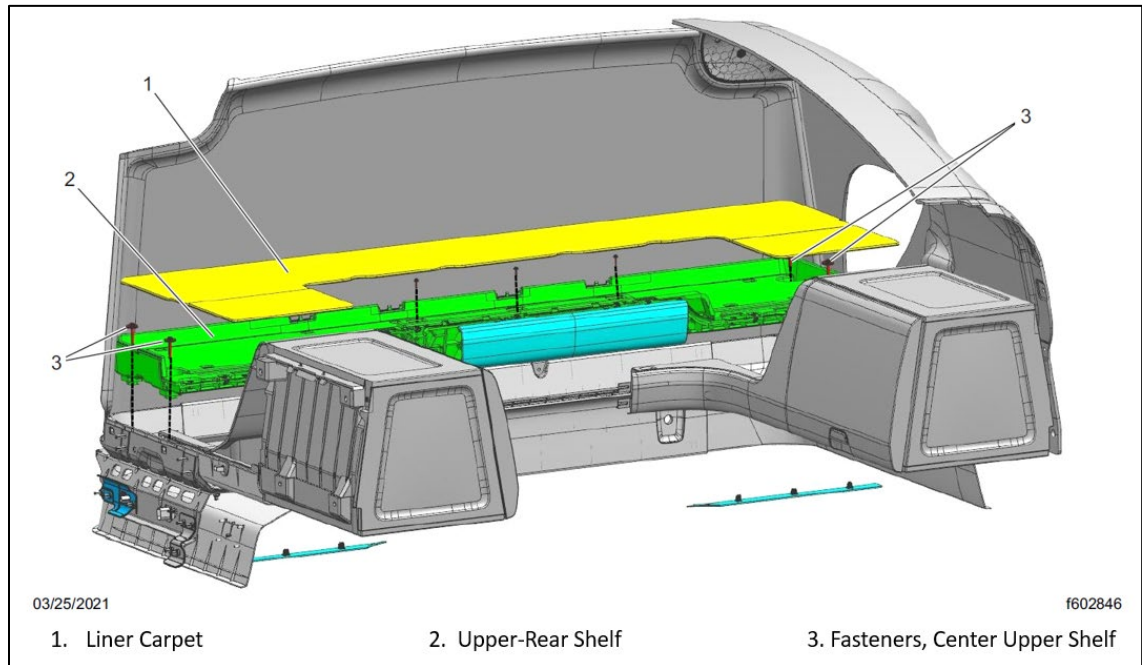

Fig. 42, Upper-Rear Shelf Assembly
6.2. Remove the four fasteners that attach the upper-rear shelf to the mounting bracket. See Fig. Fig. 42.